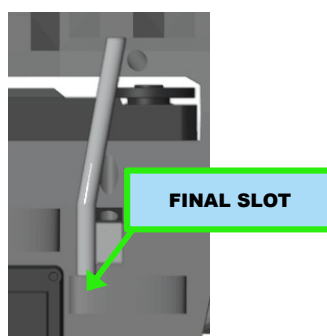

Figure 5.28 : Inserting the tube into the final slot (rear view)
1. Insert one end of the PTFE tube into the initial slot (on the rear of the skeleton) of the extension tendon (figure 5.28)